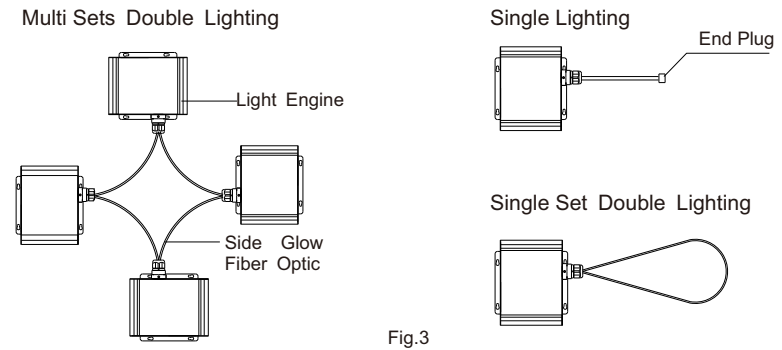

Fig.3
(1) Side Lighting Fiber Optic:(See Fig.3).